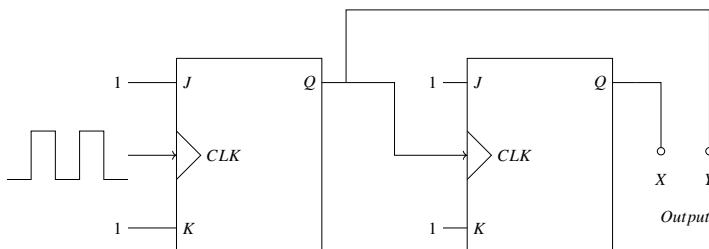

Fig. 5.17
17. The circuit shown in Fig. 5.17 below uses ideal positive edge-triggered synchronous $J - K$ flip flops with outputs X and Y . If the initial state of the output is $X = 0$ and $Y = 0$ just before the arrival of the first clock pulse, the state of the output just before the arrival of the second clock pulse is (GATE IN 2019)